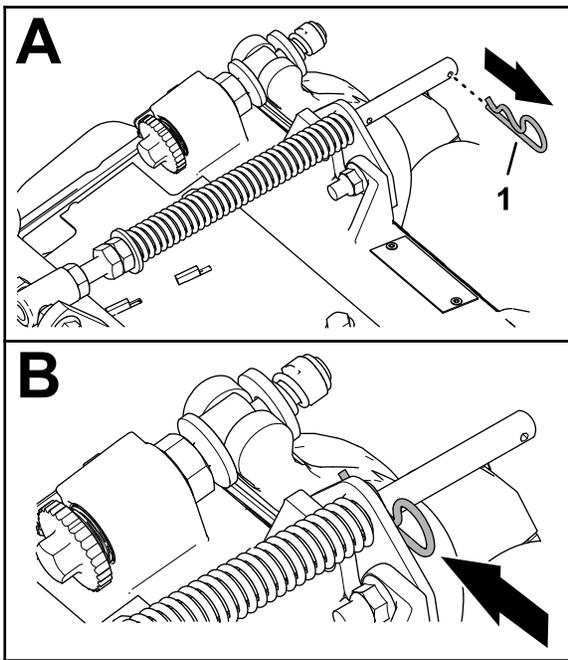

Figure 17
1. If the hairpin is installed in the rear hole of the compensation-spring rod—remove the hairpin and insert it in the hole next to the bracket (Figure 17).